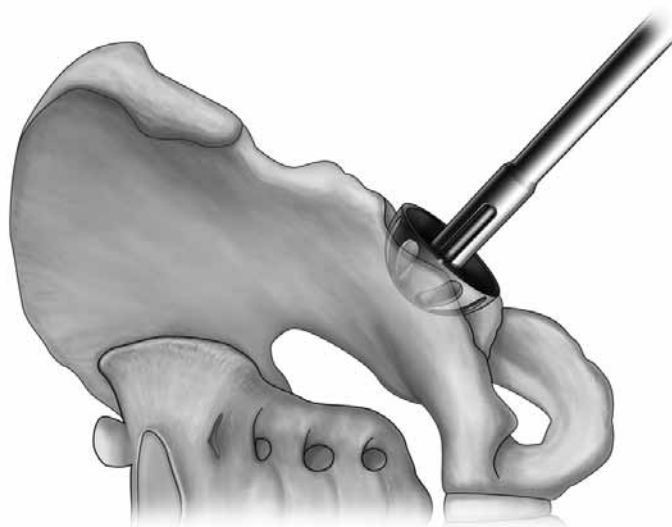

Figure 2
Step 1: Assemble the appropriate **Acetabular Shell Trial** onto the **Acetabular Shell Impactor, Straight**, and insert into the reamed acetabulum (*Figure 2*). Trialing of the shell will determine reaming accuracy as well as judging final placement of the acetabular implant relative to the peripheral rim.